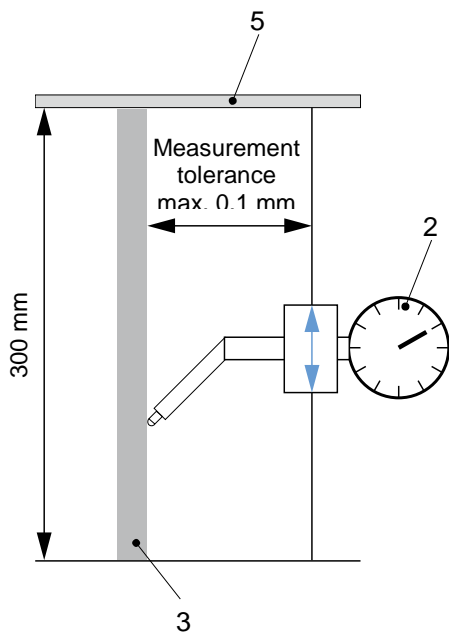

Fig. 1: Alignment piston rod
9.2 Installation (Figs. 1 and 2)
The piston rod support (Fig. 1 Item 5) and the piston rod (Fig. 1 Item 3) (customer-side) must be exactly aligned with one another. Max. Deviation to 0.3 m = 0.1 mm
1. Connect the pneumatic hose with Ø m1 (Fig. 1, section 4.3) to the compressed air connection (plug-in fitting item 6)